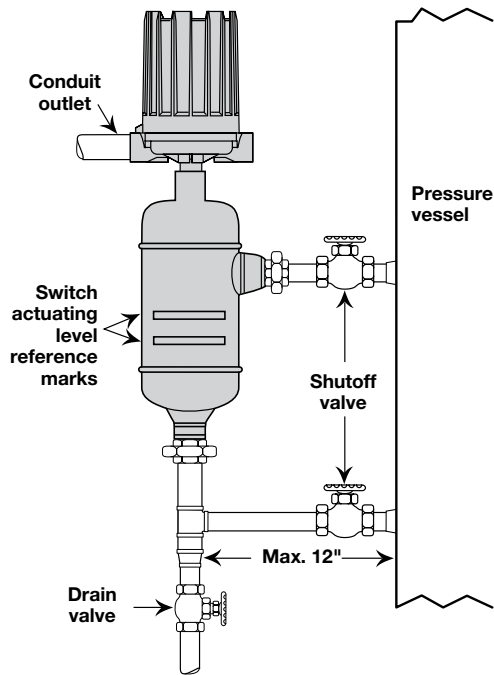

Figure 3
Figure 3 shows a typical piping installation of a Magnetrol Series 3 control to a pressure vessel. Level decals on control identify the actuation levels for the bottom switch mechanism of a unit with three switches at minimum specific gravity. To find the actuation levels for a unit with one switch at different minimum specific gravities, refer to the charts in Actuation Levels, Steam Service Ratings and Specific Gravities, Section 5.2.5, on page 28.
- a. Close shut-off valves (if so equipped) to isolate control from tank. Drain off liquid in float chamber. Refer to **Figure 3** on page 5.